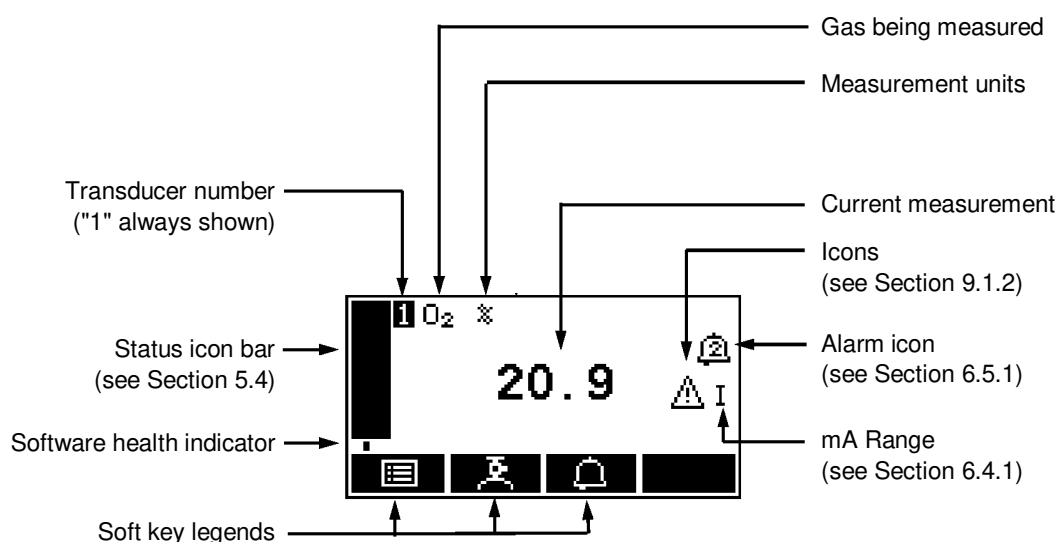

Figure 6 - The measurement screen
The screen will initially display the "System Check" task message. The measurement screen is then displayed, as shown in Figure 6 below.
The four soft key legends at the bottom of the measurement screen Figure 6 correspond to the four soft keys on the front of the instrument. (The first, left-most, legend corresponds to the function of soft key 1, the second legend corresponds to the function of soft key 2, and so on.) On the measurement screen, the soft key functions are as follows: